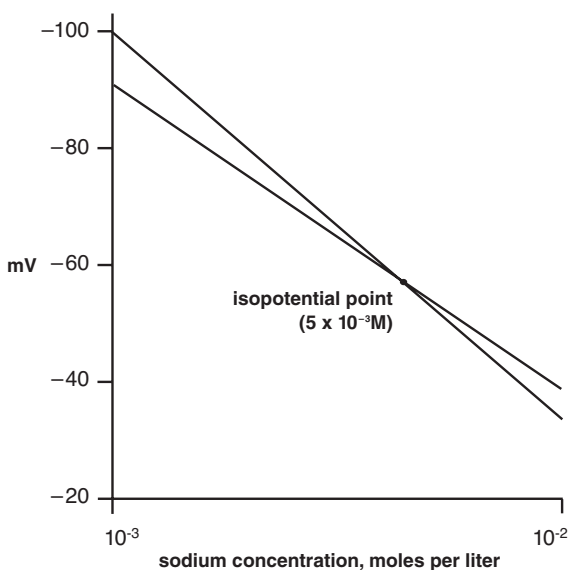

Figure 5
The slope term S , in the Nernst equation is actually $2.3 RT/nF$, where R and F are constants, n is the charge on the measured species, and T is the temperature in degrees Kelvin. This means that the slope of the electrode, like all electrodes, will change with changes in temperature. Calibration curves generated at varying temperatures are shown in **Figure 5**.
4. On semilogarithmic graph paper, plot the concentration values on the log axis versus the millivolt values on the linear axis, as any calibration curve would be drawn (see **Figure 5**).